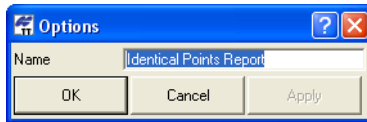

Figure 7-27. Item Options – Identical Points Report
- Identical Points Report – edit the name and click **OK** (Figure 7-27).